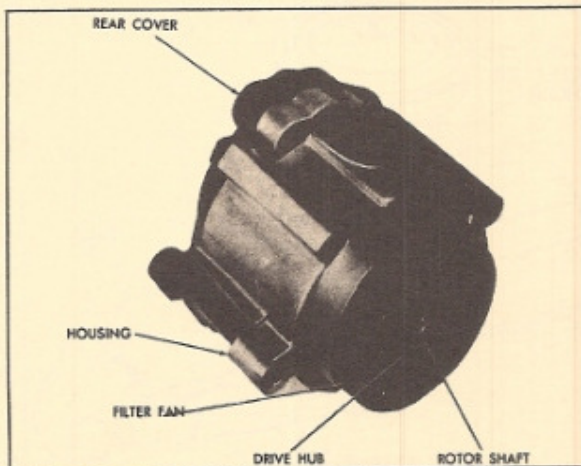

Figure 58 — Air Injection Pump
**AIR INJECTION REACTOR SYSTEM (AIR)** — The Air Injection Reactor System (AIR) consists of: an air injection pump (with necessary brackets and drive attachments), air diverter valve, a check valve and air pipe hose necessary to connect diverter valve (see figures 58 and 59).
The air injector pump (see figure 58) with an integral filler, compresses the air and injects it through the air manifolds, into the exhaust system in the area of the exhaust valves. The fresh air helps burn the unburned portion of the exhaust gases in the exhaust system, thus minimizing exhaust contamination.